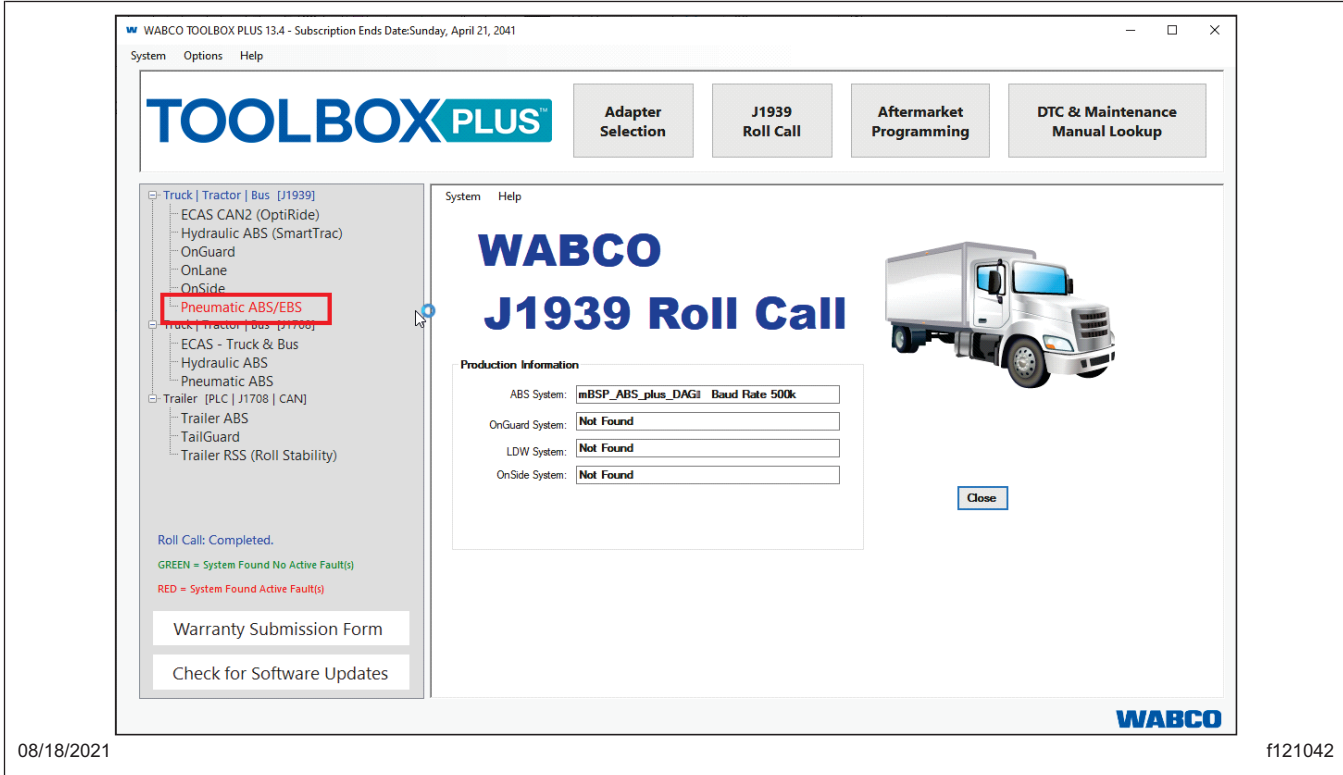

Fig. 10, WABCO TOOLBOX Options
19. Save a parameter file from the ECU as proof that the parameter update was successfully completed, and add it to the vehicle repair order. This can be done in the WABCO TOOLBOX. Launch the WABCO TOOLBOX software and select 'Pneumatic ABS/EBS.' See Fig. 10.